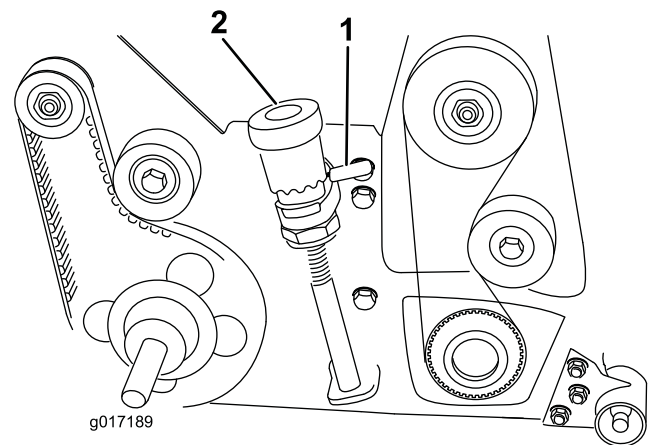
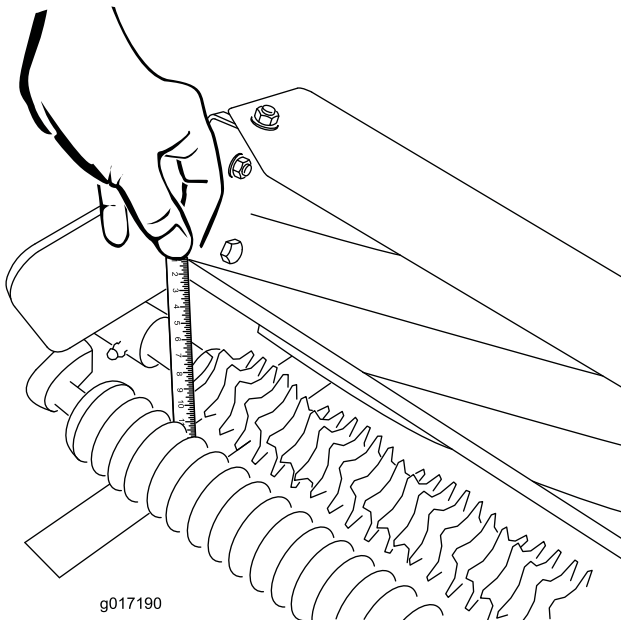

Figure 13
Figure 14
2. Use the quick up levers (both sides) to lower the grooming reel into the grooming position (Figure 13).
3. On one end of the groomer shaft, measure the distance from the lowest tip of a groomer blade to the work surface (Figure 14). Lift and turn the micro adjustment knob (Figure 13) to raise or lower blade tip. Each notch on the micro adjustment knob is approximately equal to .007 inch (.17 mm) of groomer depth.
Important: When transporting machine be sure to raise the grooming reel into its transport (raised) position. To raise the grooming reel, rotate the right and left quick up levers so they face to the rear (Figure 13). To lower the grooming reel, turn the quick up levers forward.